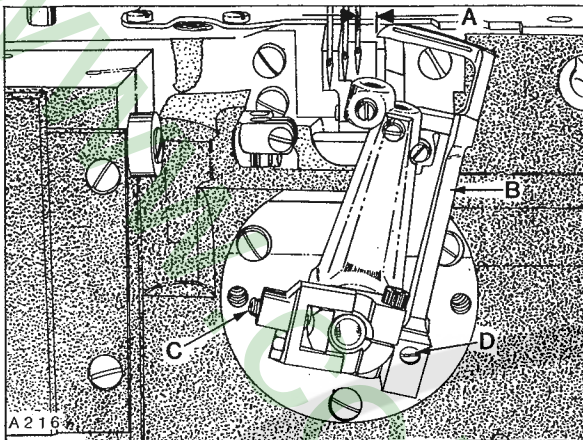
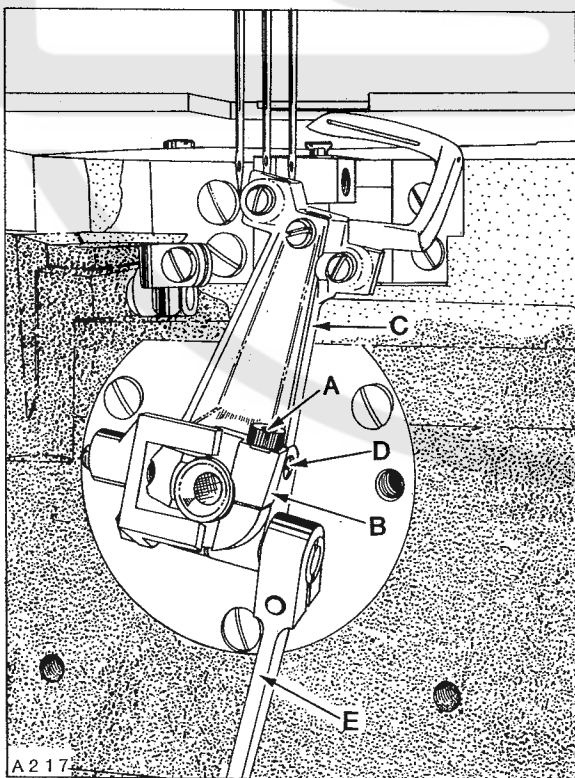

Fig. 10
Fig. 11
If not previously done, insert a new set of needles; type and size specified. With looper holder at EXTREME right end of travel, distance from centerline of RIGHT needle to point of RIGHT looper should be dimension (A, Fig. 10); see chart. Adjustment can be made by pulling release lever (B) down and loosening screw (A, Fig. 11) in stop collar (B). Apply pressure against the upper portion of looper holder (C) to the LEFT while turning screw (D) in looper holder clockwise to increase looper gauge or counterclockwise to decrease. Applicable looper gauge can be used advantageously in making this adjustment.
Continue to apply pressure against upper portion of looper to the LEFT while turning stop collar (B) to its EXTREME CLOCKWISE position and tighten screw (A) securely. Push up release lever (E) to lock looper holder in position. Adjust screw (C, Fig. 10) which incorporates a spring plunger, against the recess in cam of stop collar as required to attain the following conditions:
In locked position, the release lever should be approximately in line with middle looper as viewed from the right side of looper holder. Adjustment can be made by loosening screw (D, Fig. 10), reposition release lever as required and retighten screw.
Loopers must also be set so, as they travel to the left behind the needles, NOT to touch, but with a **MAXIMUM** clearance of .002 inch (.051mm). Adjustment can be made by pulling release lever down, loosening screw (A, Fig. 11) in stop collar (B) allowing looper holder to be moved forward or rearward on its shaft, as required. Apply pressure against upper portion of looper holder to the **LEFT** while turning stop collar (B) to its **EXTREME CLOCKWISE** position and tighten screw (A) securely and push release lever up in locking position. **RECHECK** looper gauge.